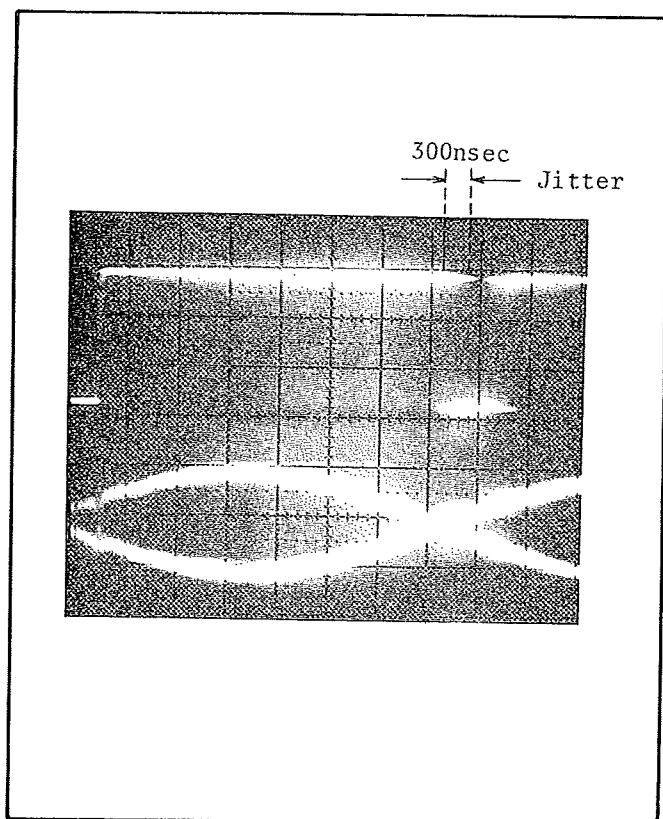

Figure 5-36. Scope Display of Jitter.
8. Adjust the trigger level of the 1740A so that the signal from TJ1 pin 7 appears as a "cat's-eye" as shown in Figure 5-36.